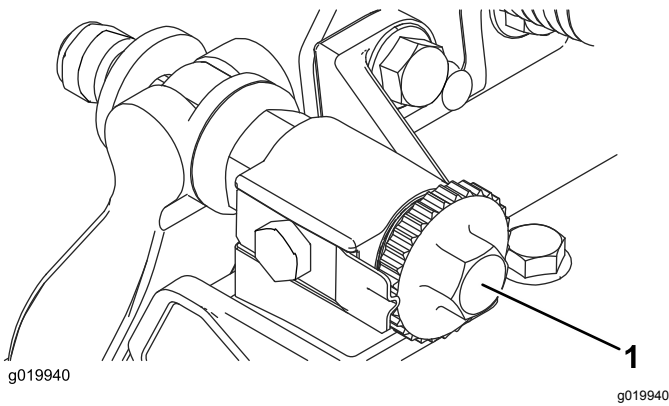

Figure 17
1. Position the cutting unit on a flat, level work surface. Turn the bedbar-adjusting screws counterclockwise to ensure that the bedbar does not contact the reel (Figure 17).